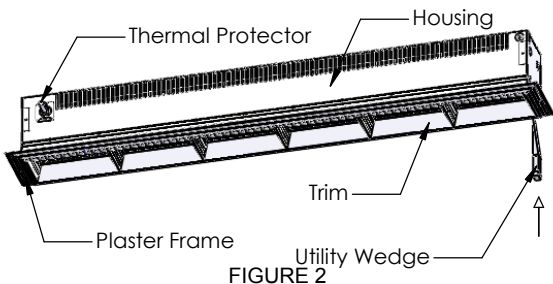

FIGURE 2
2. The Trim of the Stealth Graze must now be removed so that access can be gained to the Thermal Protector. This step may be skipped if blocking is not in the way of the Thermal Protector or a different mounting method is being used. Place the Utility Wedge between the Trim and the Plaster Frame and push straight up until the Trim pops out. (Figure 2) Do not bend the Utility Wedge while in the Fixture, as it might break.